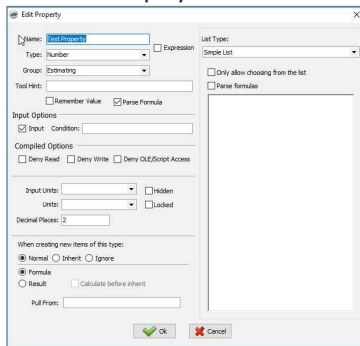

Figure 9
13. Click on **Advanced** again to return to the **Joist Tools Properties** window, double-click on the **Test Property** property you created previously, and delete the **Tool Hint:** text. The **Edit Property** window for the **Joist Tool** should look similar to Figure 9.